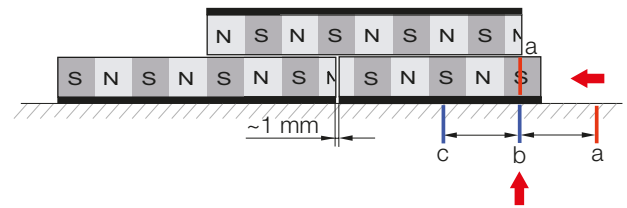

Fig. 4-12: Position shortened tape
8. Place the aid tape on tape M1 and move it into a stable position (Fig. 4-12).
Move shortened tape M2 towards the joint until the marking (a) on the tape is flush with the marking (b) or (c) on the machine part (Fig. 4-12). The aid tape must now be "engaged" in a stable position. If needed, slide tape M2 to the right or left by 1 mm to find the position with the greatest attraction.